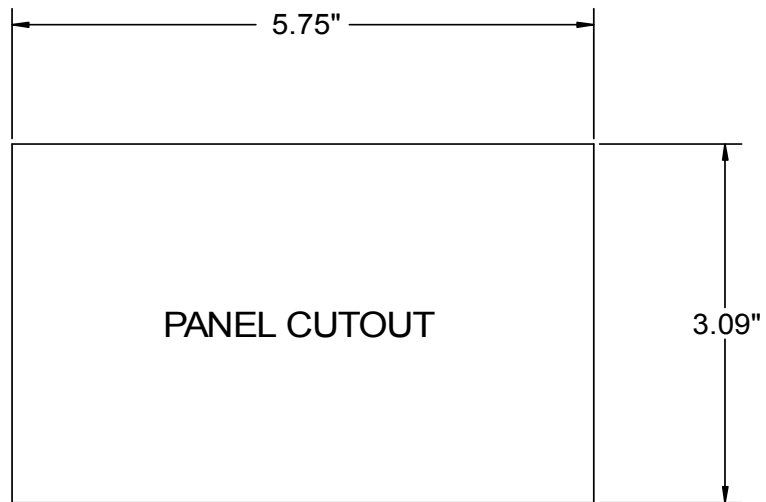

FIG. 3-2 PANEL CUTOUT DIMENSIONS
2. Dimensions of the enclosure cutout (See Fig. 3-2)
See Figure 3-2 for information about the panel cutout.